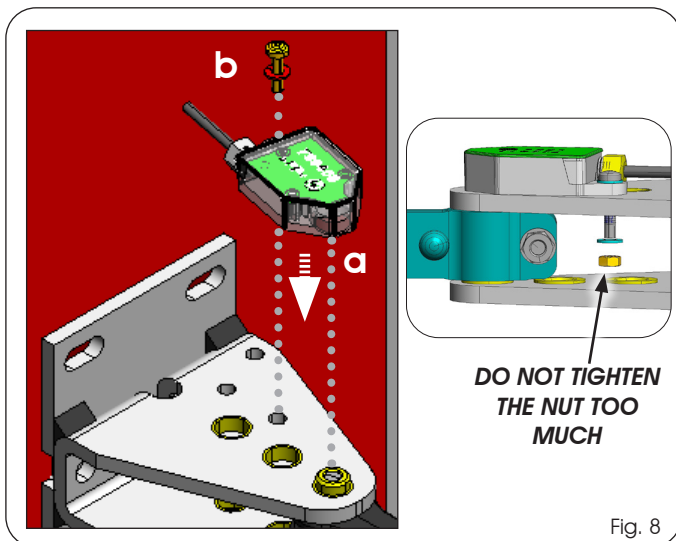

Fig. 8
3. Install the encoder on the rear bracket by correctly engaging it on the pin, then attach it with the screw and nut supplied (Fig. 8 Ref. a, b).